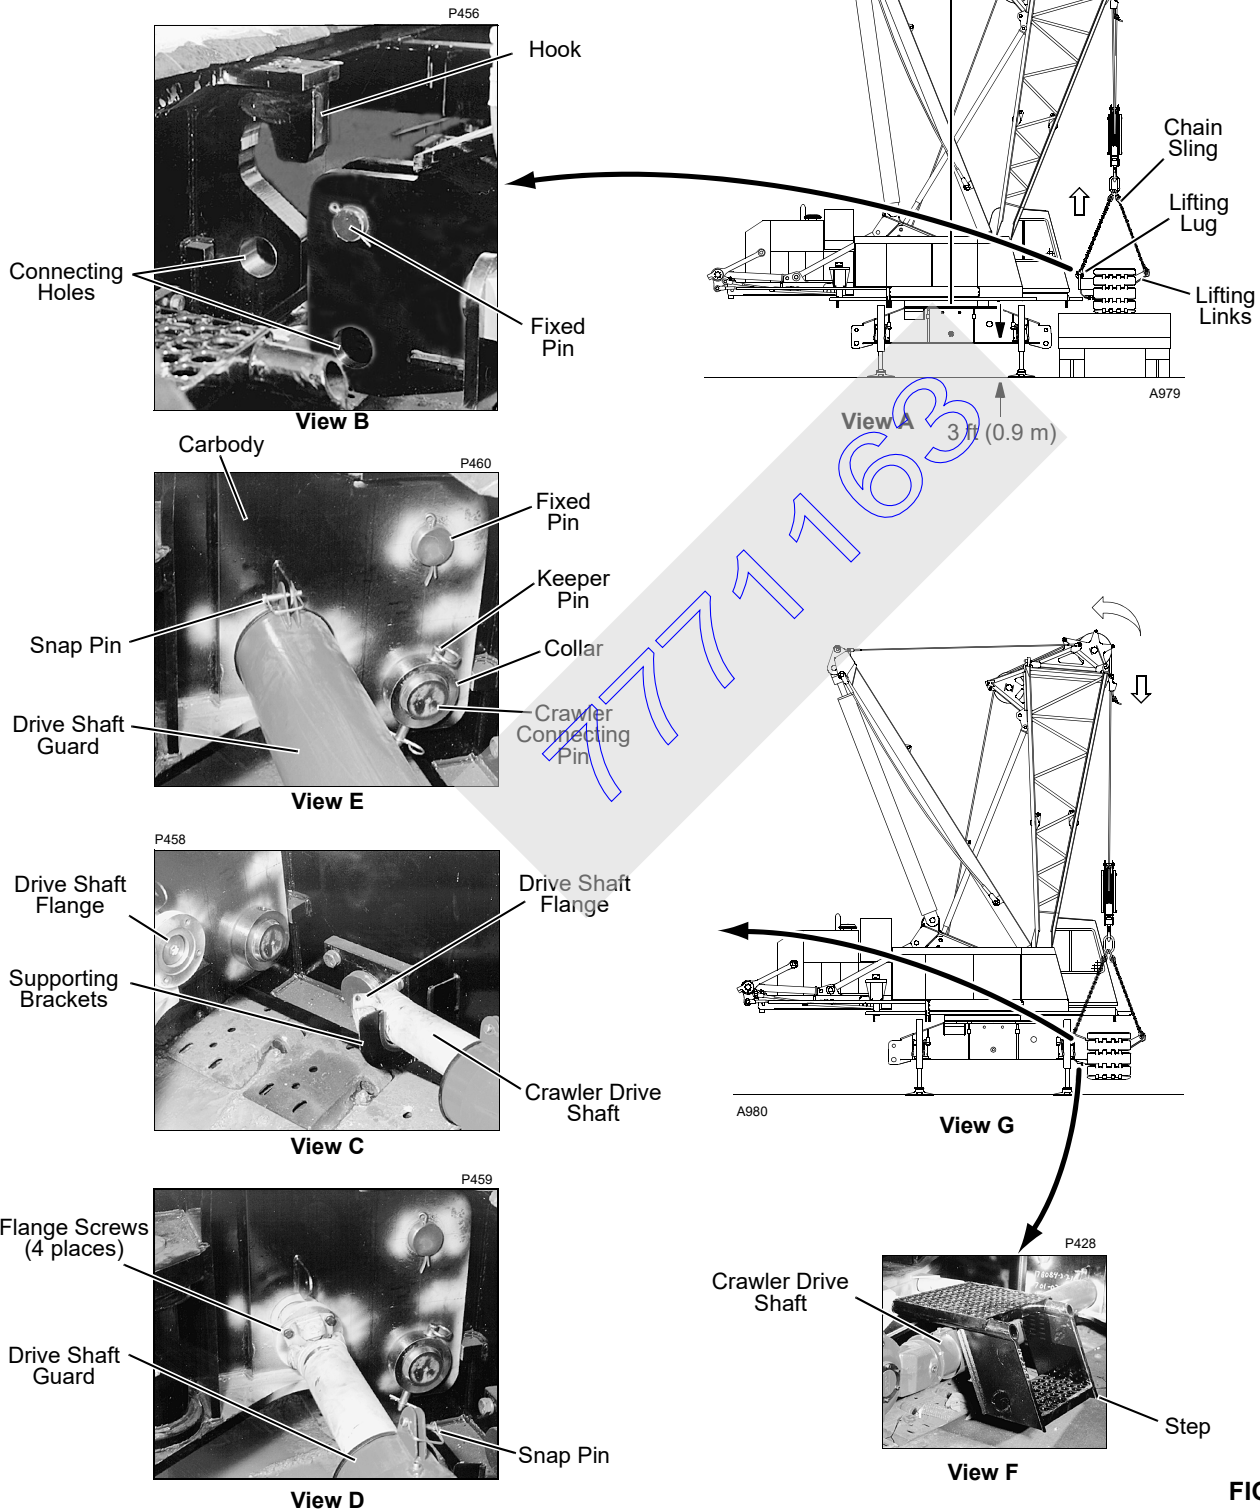

FIGURE 4-6
See Figure 4-6 for following procedure unless otherwise indicated.
18. Install step (Figure 4-6 View F) at front and rear inboard side of both crawlers.